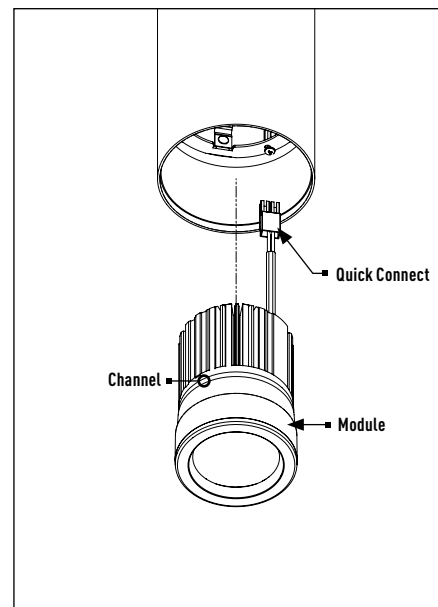

figure 3
5. Grasp module with hand and fully remove from housing (see figure 3)